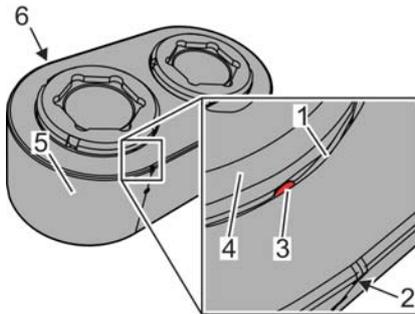

Fig. 108: Releasing the hexagon socket set screws of the rotating slide ring sealing parts
Carefully unscrew the locking screw (Fig. 108/3) of both rotating slide ring sealing parts (Fig. 108/4) in the threaded boreholes (Fig. 108/2, 6) from the hold-down edge (Fig. 108/1) until the rotating slide ring sealing parts can be removed upwards out of the bearing housing (Fig. 108/5).
2. Place the bearing housing (Fig. 108/5) in the collecting tray to dismantle so that any leaking glycerine can be disposed of in an environmentally appropriate manner.